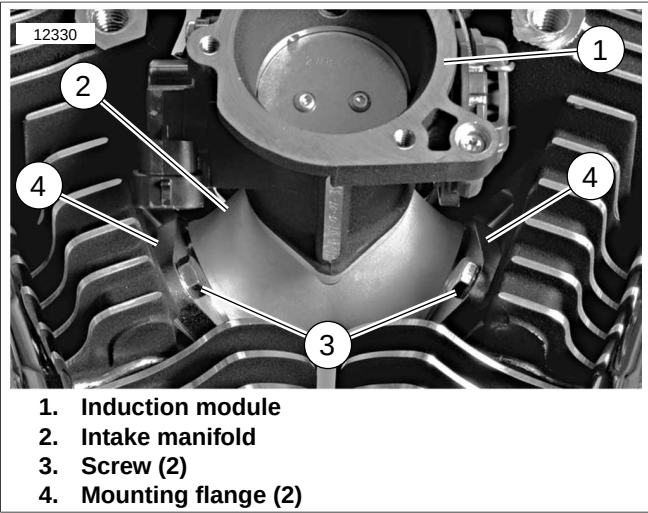

Figure 4-41. Intake Manifold Mounting Screws: Right Side
13. See Figure 4-41. Remove two screws (3) securing intake manifold to heads on right side of vehicle.
14. Pull mounting flanges (4) away from heads as much as possible and pull induction module and intake manifold assembly toward the right side, away from vehicle.
5. See Figure 4-41. Holding induction module/intake manifold assembly in place, install two mounting screws (3) into remaining mounting flange holes. Tighten all four screws finger-tight.